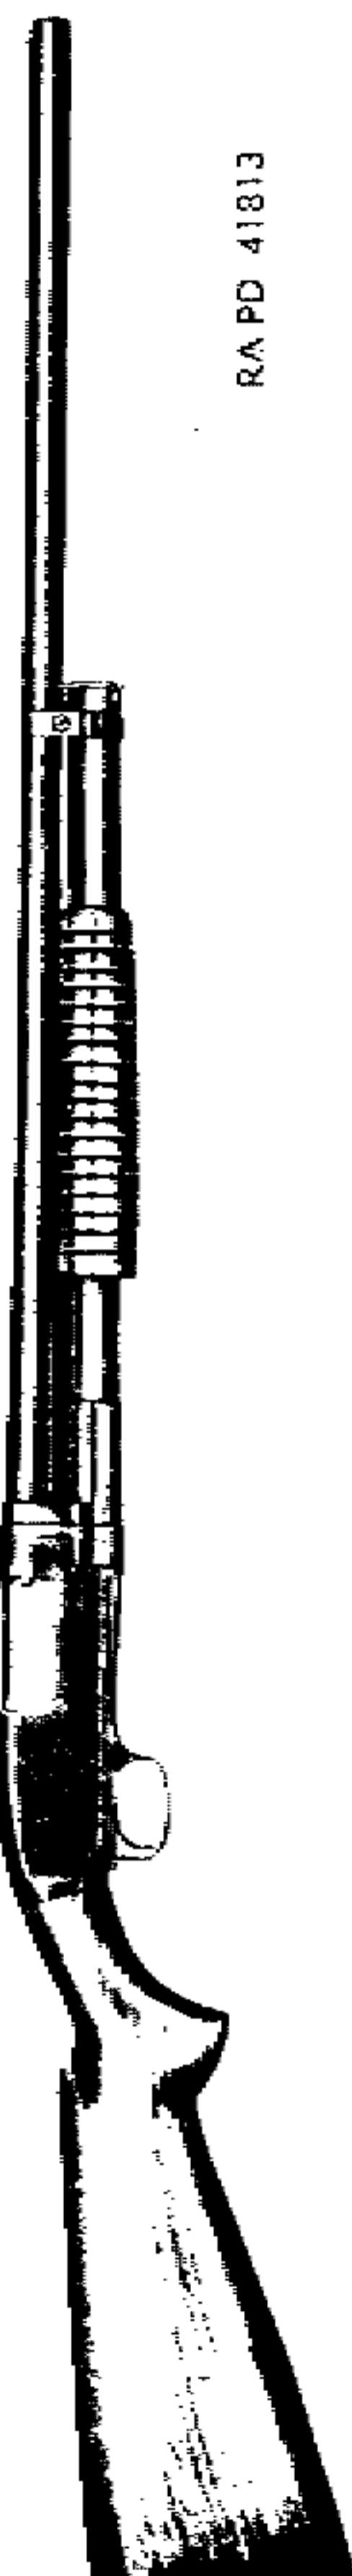

Figure 18—Right Side View—Sporting Trap Type—Winchester Shotgun M12
(1) Name of maker, gage, model, and barrel boring are stamped on the top of the barrel near the breech end.
(2) The serial number of the gun is stamped on the lower face of the barrel near the breech end, and on the lower face of the forward end of the receiver.
b. This gun (figs. 18 and 19) is a manually operated repeating shotgun of the slide action, hammerless, solid-frame and take-down type. The take-down gun is so constructed that the barrel and magazine together with the action slide group can easily be removed as a unit by disengaging interrupted threads on rear end of magazine and barrel from like interrupted threads in the receiver, by which the barrel and magazine are locked to the receiver. This construction facilitates cleaning and transportation of the gun. The construction of barrel magazine and action slide group is similar to, but not interchangeable with the Winchester M97 take-down type of gun described in section II. The receiver and operating mechanism, however, differ widely in design. The solid frame type of gun, when issued, will be constructed with barrel and magazine similar to the modified solid-frame Winchester M97 gun (par. 4 e).
(1) The riot-type gun is usually furnished with a 20-inch plain barrel, bored cylinder, and may be equipped with a bayonet attachment and hand guard attached to the muzzle end of the barrel, and a leather sling attached to a sling swivel on the bayonet attachment and the stock. If equipped with bayonet attachment it is solid-frame. Refer to paragraph 3 i.
(2) The sporting skeet-type gun is usually furnished with a 26-inch plain or ribbed barrel, bored improved cylinder, and is without bayonet attachment or sling.
(3) The sporting trap-type gun (figs. 18 and 19) is similar to the skeet-type gun but is furnished with a 30-inch barrel, bored full choke, and is without bayonet attachment or sling.